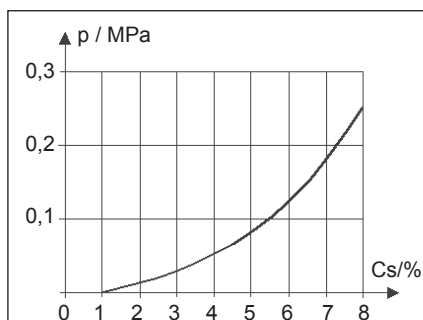

Figure 1 Minimum process pressure at different consistencies
- Minimum process pressure for different consistencies: refer to Fig 1